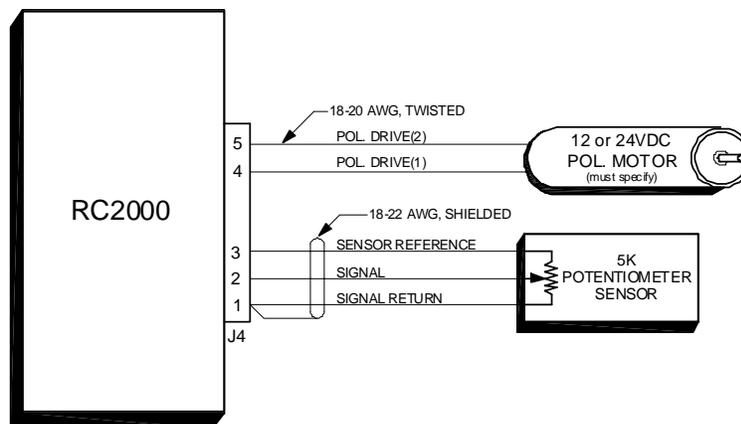

Figure 3.4 Polarization Control
1. Connect the polarization/sensor assembly as shown in figure 3.4. Note that shielded cable is required for the sensor and that the shield MUST be connected to the GROUND terminal (1) at the back of the controller and MUST NOT be connected to anything at the antenna. Research Concepts, Inc. can supply cable for installation. RCI part number CBL-2\_16-3\_22A contains 2 16 gauge conductors for carrying the motor drive current and a shielded triple with a drain wire in a single UV resistant-direct burial jacket. Contact RCI for details.
2. The CONFIG mode item *Rotating Feed Present?* must be set to YES (1). Activate CONFIG mode and use the SCROLL DOWN key to bring up the *Rotating Feed Present?* item and key in a 1 followed by the ENTER key. (If the *Rotating Feed Present?* item is not accessible in CONFIG mode, the Expert Access Flag has been reset. If this occurs, set the Expert Access Flag (1) as described in section 2.5.)